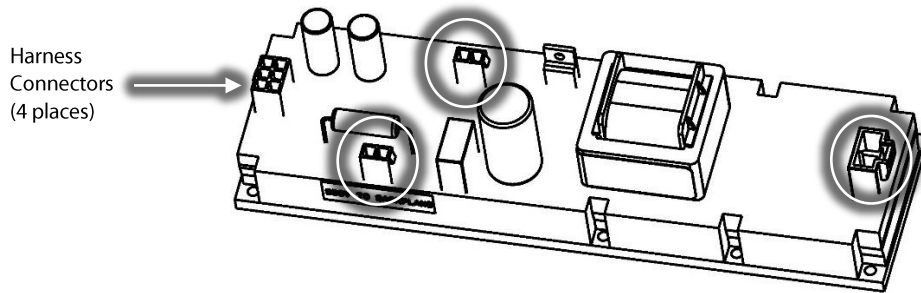

Figure 16 – DC-DC Harness Removal
25. Disconnect all wiring connections from the HV DC-DC. Refer to Figure 16 (DC-DC Harness Removal).
20. Reconnect all electrical connections to the HV DC-DC converter. Refer to Figure 16 (DC-DC Harness Removal).